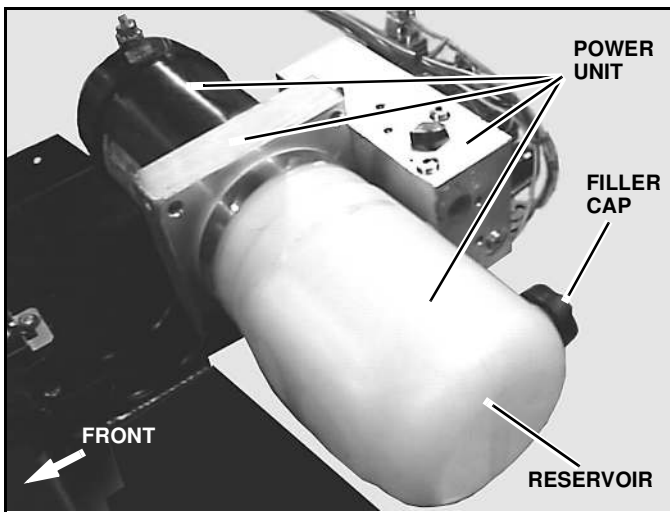
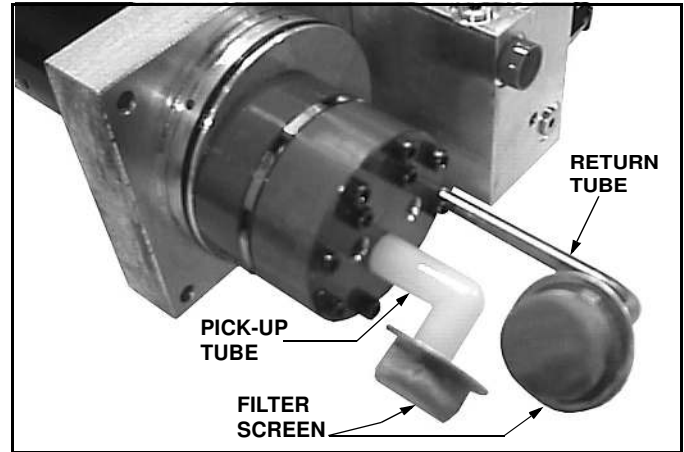

Figure 2-5
Figure 2-6
7. Lift the power unit and rotate it toward the rear of the pump platform. (See Figure 2-5)
8. Loosen the band clamp, which holds the reservoir on the center section. Pull and twist the reservoir until it separates from the center section. Place a container under the power unit to catch spilled oil. Note the position of the reservoir oil pick-up tube and be sure the tube is in the same position when the filter is removed and installed. (See Figure 2-5 and Figure 2-6).
10. Pull the filter screens from the oil pick up tube and return tube and clean them with a suitable solvent. Blow-dry the filter from the inside with low-pressure air. (See Figure 2-6)